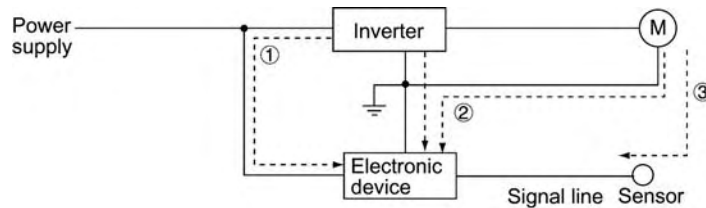

Figure A.3 Conduction Noise
(1) Conduction noise
Noise generated in an inverter may propagate through the conductor and power supply so as to affect peripheral devices of the inverter (Figure A.3). This noise is called "conduction noise." Some conduction noises will propagate through the main circuit ①. If the ground wires are connected to a common ground, conduction noise will propagate through route ②. As shown in route ③, some conduction noises will propagate through signal lines or shielded wires.